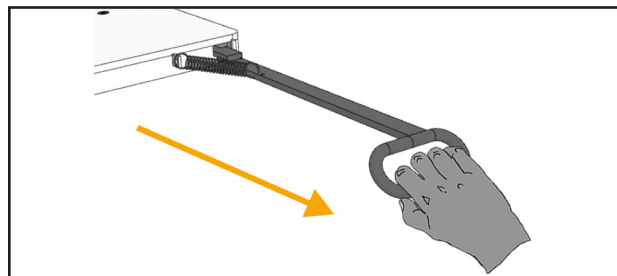

Fig. 3: Pull the handle
- Pull the handle out as far as possible „Fig. 3: Pull the handle“ on page 10.
If the handle does not move freely, or spring back into the locked position the railcar hitch has to be put out of operation and repaired by a specialized and trained workshop. See „Fig. 3: Pull the handle“ on page 10